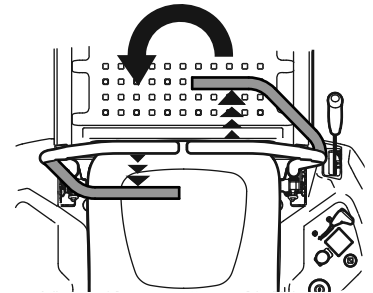

Figure 32
3. To turn counterclockwise, move the lapbar right drive control lever forward while simultaneously moving the left lapbar drive control lever rearward. See Figure 32.